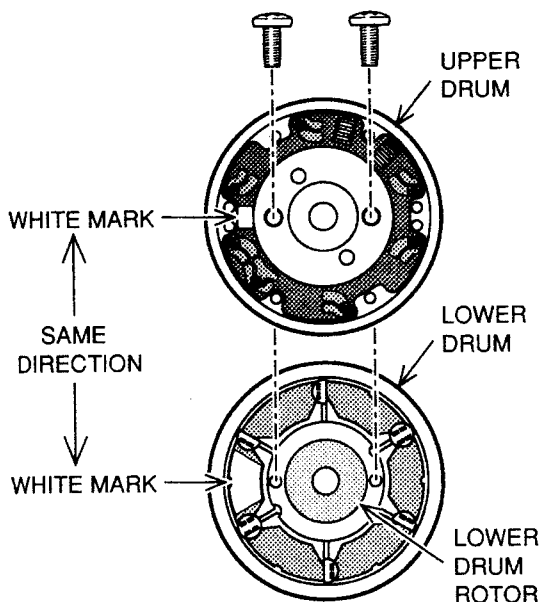

Fig. 3-20
- 1) Attach the UPPER DRUM to the LOWER DRUM ROTOR, so that the UPPER DRUM's white mark and LOWER DRUM ROTOR's white mark line up as shown in Fig.3-20.